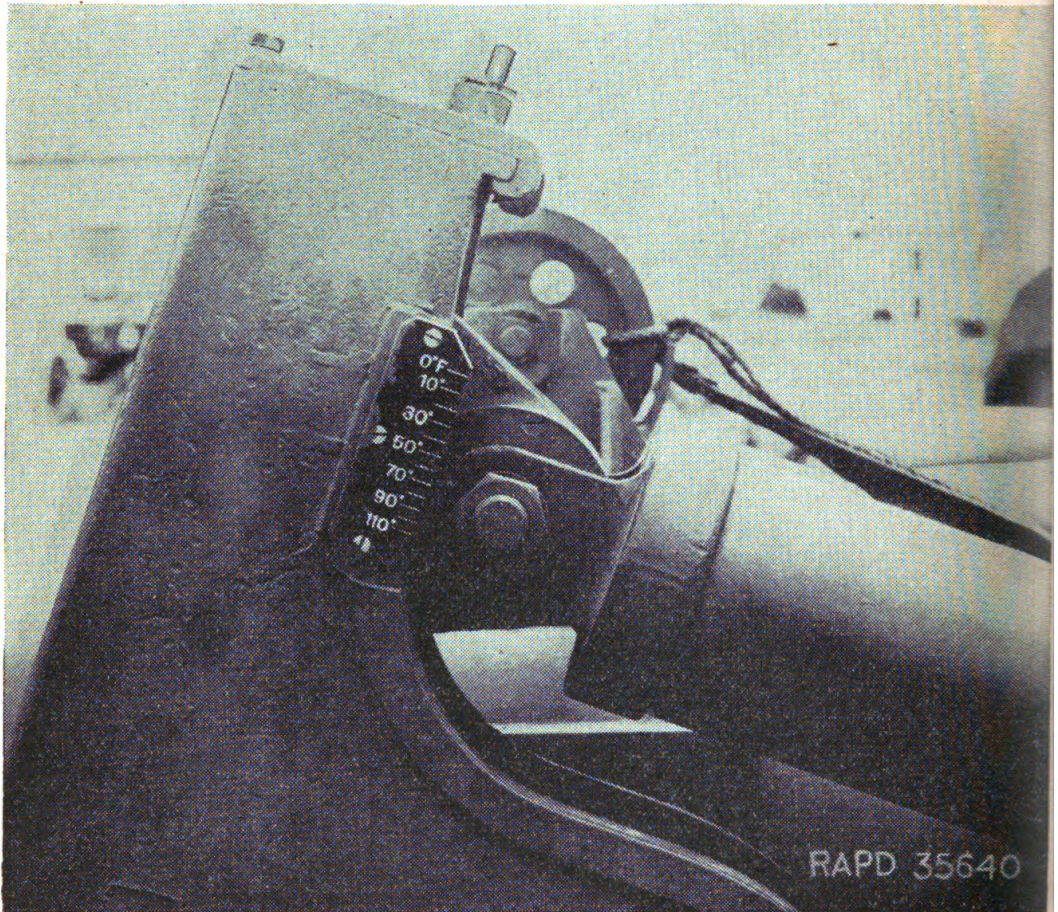

FIGURE 42.1.—Temperature scale and index.
*b. To measure the nitrogen pressure (figs. 42.1 and 42.2).—*(1) With the carriage approximately level, place the gun in battery and bring it to zero elevation. Check with gunner's quadrant.
(2) With 8-inch adjustable wrench remove the gas filling plug from the gas filling valve assembly in one equilibrator.
(3) Be sure that the air release valve and the tee cap on the air filling device are closed and that the valve opener has been unscrewed until the point has been withdrawn into the body of the device.